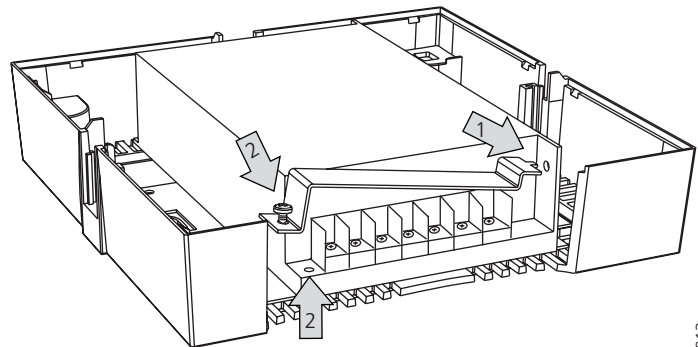

Figure 13. Mounting of the voltage safety cover.
**IMPORTANT:** The Power Supply module connects to 100 - 250 V AC. When working with the units the mains power supply cable must always be disconnected. For safety the covers must always be mounted after an installation. The voltage safety cover has to be mounted on top of the voltage connector in the Power Supply module to prevent hazardous situations, like electric shock, see figure 13 on page 9.
- 5 Mount the voltage safety cover on its position (1), fasten it with one screw (2), see figure 13.